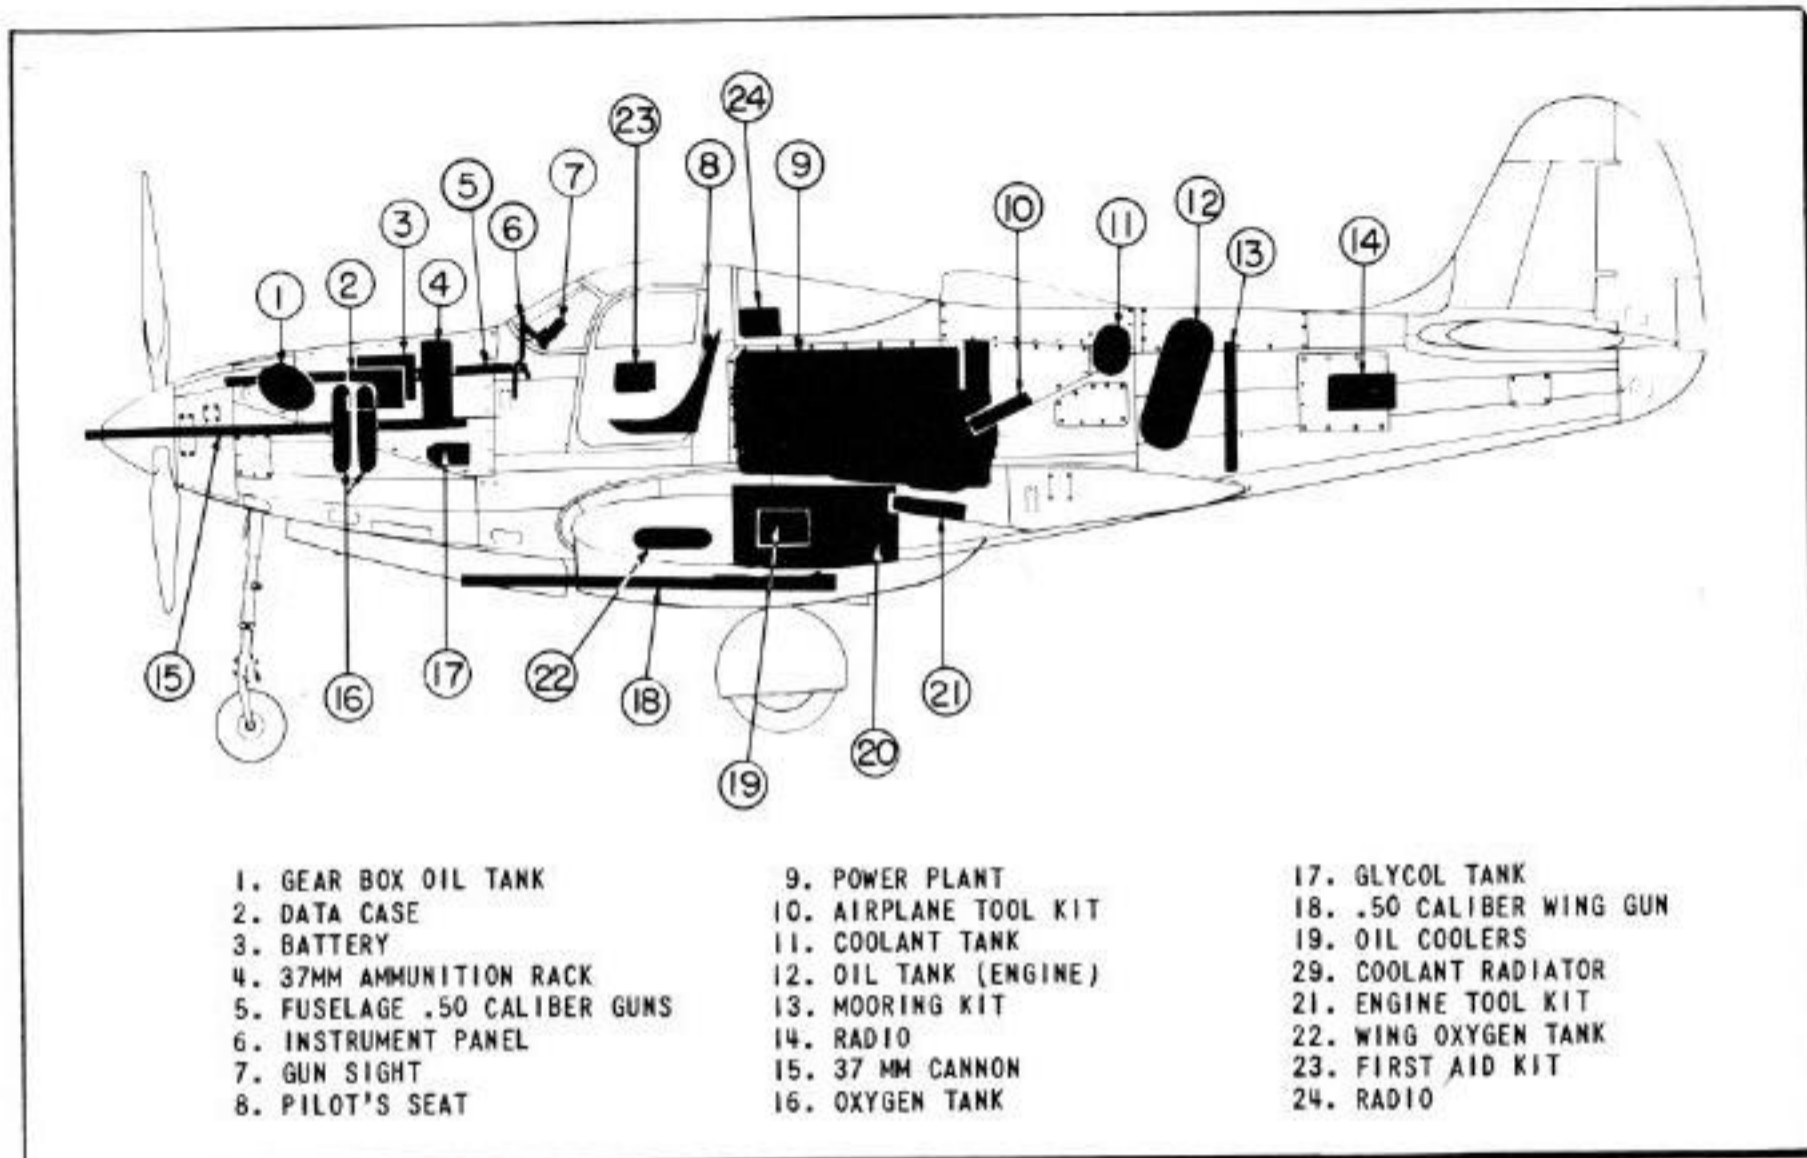

Figure 4 - General Arrangement
b. DATA CASE. (See figure 4.) - The data case is attached to the under side of the left-hand section of the forward fuselage gun compartment cowl.
c. FIRST-AID KIT. (See figure 4.) - A first-aid kit is located on the left-hand cabin door.
d. MOORING KIT. (See figure 4.) - A mooring kit is located on the deck of the aft fuselage.